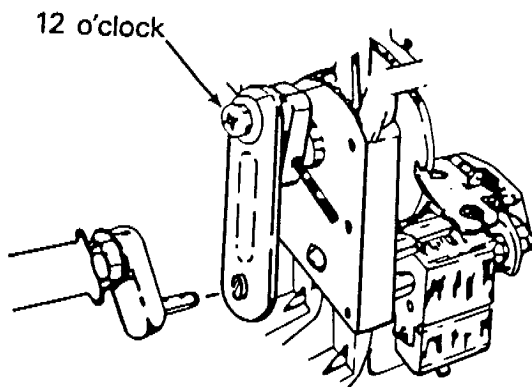
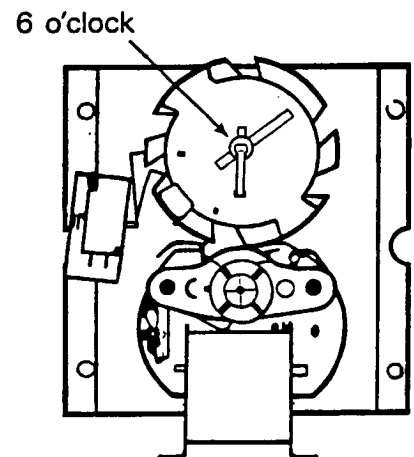

Figure 10
Figure 11
1. Make sure the hole through the rear shaft of the motor is in a horizontal plane. (If a pin were inserted in the hole, the pin would be horizontal). See figure 10.
2. Slide the Drive Arm (with linkage attached) onto the rear shaft as shown. See figure 10.
6. Install the vending cam onto the front shaft of the motor making sure that the lock tab is at 6 o'clock as shown. See figure 11.
**NOTE:** When the screw holding the linkage arm to the drive arm is at 12 o'clock position (See Fig. 10), the lock tab will be at the 6 o'clock position (See Fig 11).